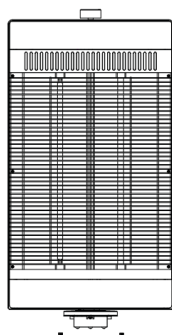

FIG. 2
2. Remove the two screws below the stove (Figure 2).